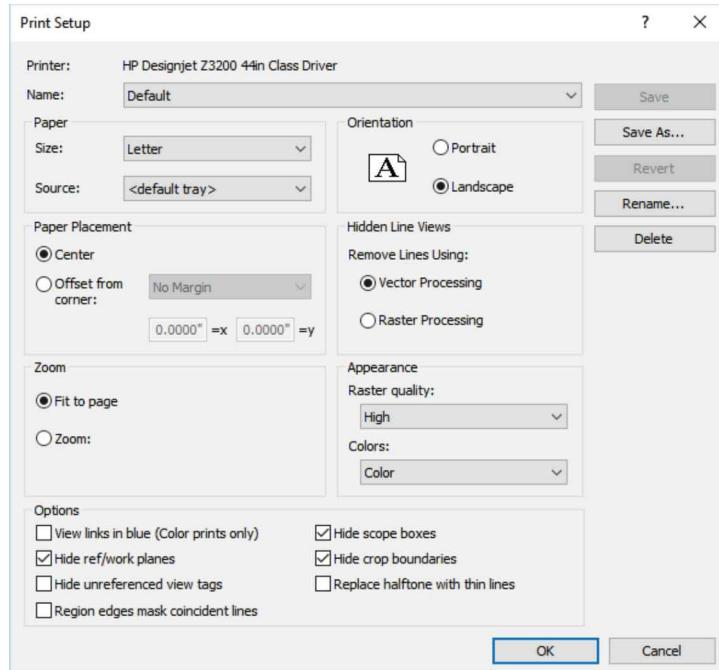

FIGURE 2-6.2 Print Settings dialog
4. Adjust your settings to match those shown in **Figure 2-6.2**.